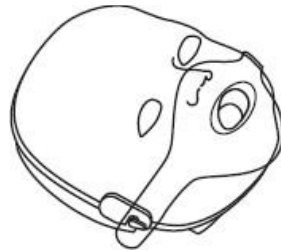

Figure 5
9. Attach the face shield tabs to the 'buttons' located on the side of the manikin head (Figure 5).